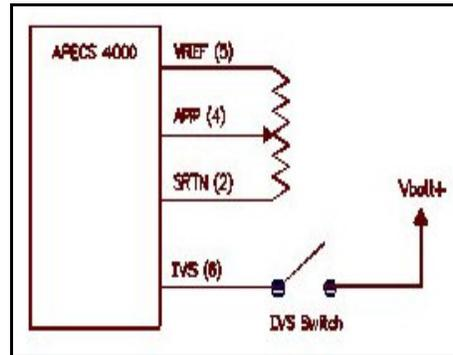

Figure 11. Analog Input Switch with IVS
If use of an idle verification switch (IVS) is desired, hook up Pin (6) from the controller to the idle verification switch on the pedal. (Refer to the manufacturer’s instructions or OEM manual.) The other side of the switch should be connected to battery voltage (see Figure 11).